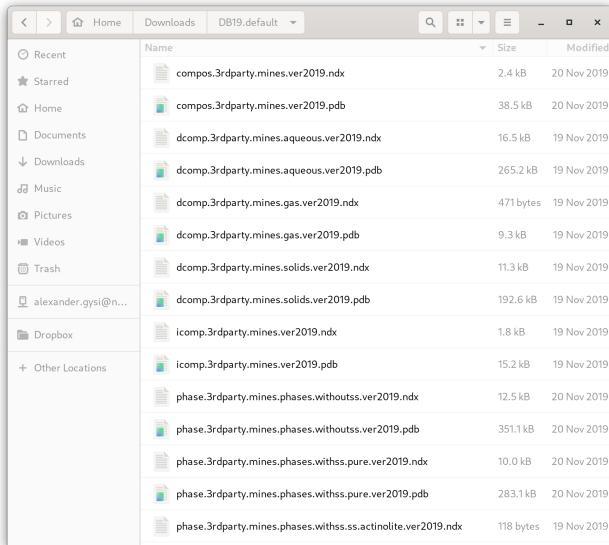

Figure 1.2: Unzipped DB19.default folder and database files to copy.
- Download and unzip the DB19.default archive folder to Downloads. Select all the database files in this folder and copy them (Fig. 1.2).
- In the next window, you can choose the thermodynamic database for your project. Select the database files 3rdparty/MINES and support, then deselect other databases as shown in Figure 1.2. Click Next.